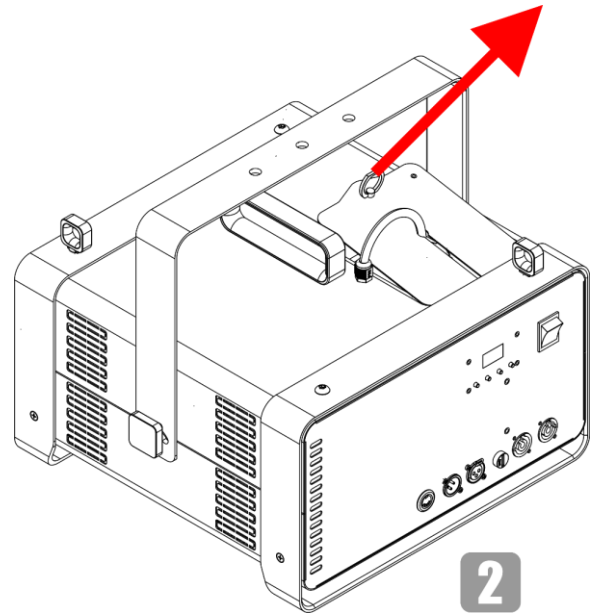

Fig. 22
- 02) Open the service lid, as shown in Fig. 22.